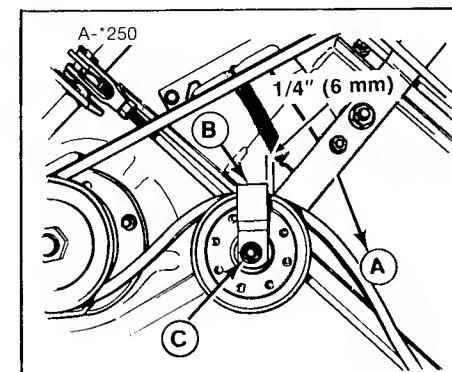

Figure 36. Idler Pulley Belt Guide
Adjust guide to obtain $1/4$ inch (6 mm) from idler arm (figure 36). Loosen nut (C) to adjust. Recheck measurement.